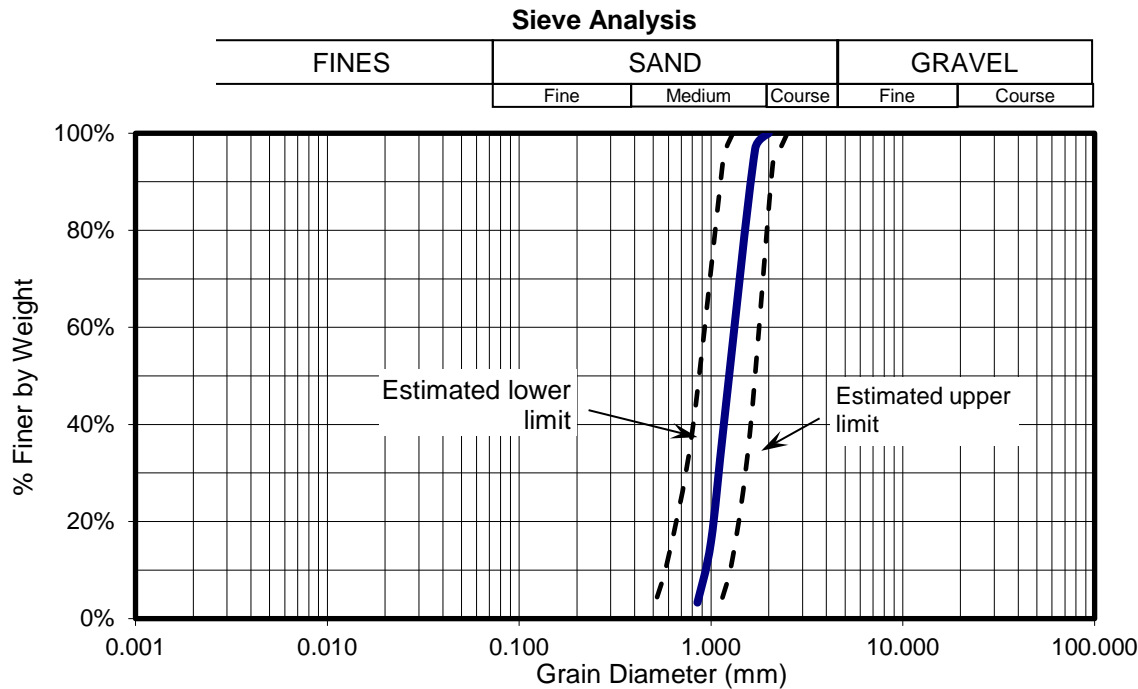

Figure 5: Estimated grain size distribution of backfill sand
8. **Backfill Material** – The backfill material will be sand provided by competition organizers on site. The sand will be a clean, dry, rounded to subrounded sand with grain size as specified in Table 1 and Figure 5. The backfill material must be used as-is; no water, additives, or chemical stabilizers may be placed in the backfill material.
Competition organizers will make reasonable efforts to ensure the competition backfill materials meet the specifications in Table 1 and Figure 5. Teams will be allowed to examine a sample of the competition backfill at the captain's meeting. No backfill samples may be removed from the meeting room. Teams may modify their wall design at this time if they desire. See section 12 below.
- Clean sand with grain size distribution as specified in Table 1 and Figure 5